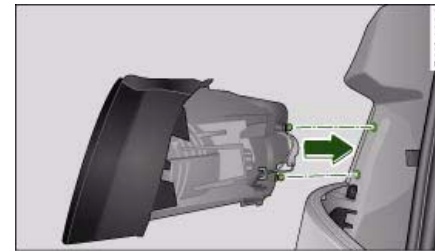

Fig. 305 Installing rear light
- Insert the rear light into the rear light carrier ⇒ *fig. 305*.